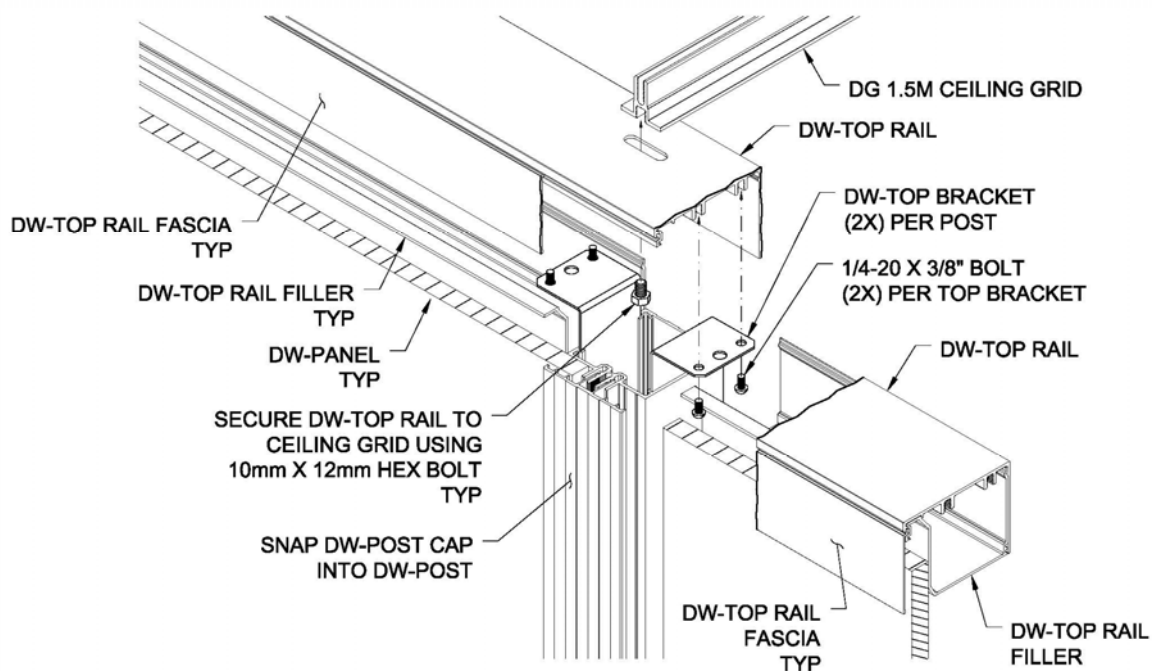

FIG.6
Install post over floor bracket next to wall. Align top bracket holes with top rail screw bosses and fasten with supplied 1/4-20 X 3/8" bolts. Repeat process using two top brackets per intermediate post. One on each side as shown in **FIG.6.**
8. Install the Top Rail Trim supplied in 2438mm long pieces by snapping into top rail. **FIG.6 & 7**.